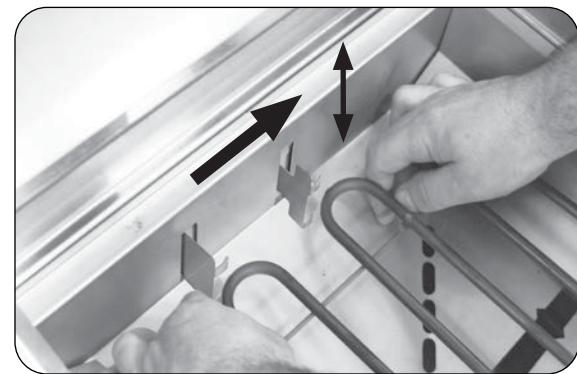

Fig. 21-1 Adjust cooking element
2. Grasp the cool cooking element, lift upwards and apply pressure towards the right of the grill. Once it clears the tab, raise or lower it to the desired height. (See Fig. 21-1.) Be sure it securely rests in position.